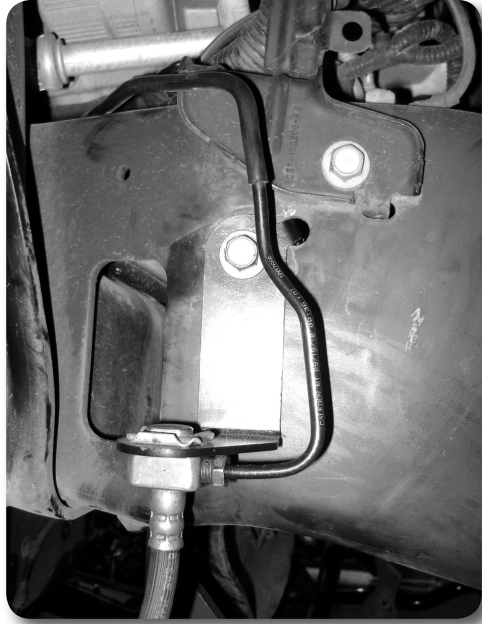

Figure 18
37. Remove the factory front brake line brackets from the frame. Locate and install the provided brake line brackets with the factory hardware so the bracket offsets towards the rear. Carefully reform the hard line and attach the junction block through the bottom of the new bracket with the factory retaining clip. **Figure 18**